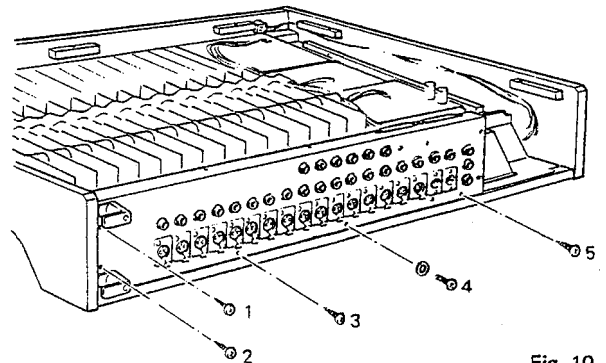

Fig. 10
- b. Remove five rear panel screws (① through ⑤ in Fig. 10) and remove the rear panel.